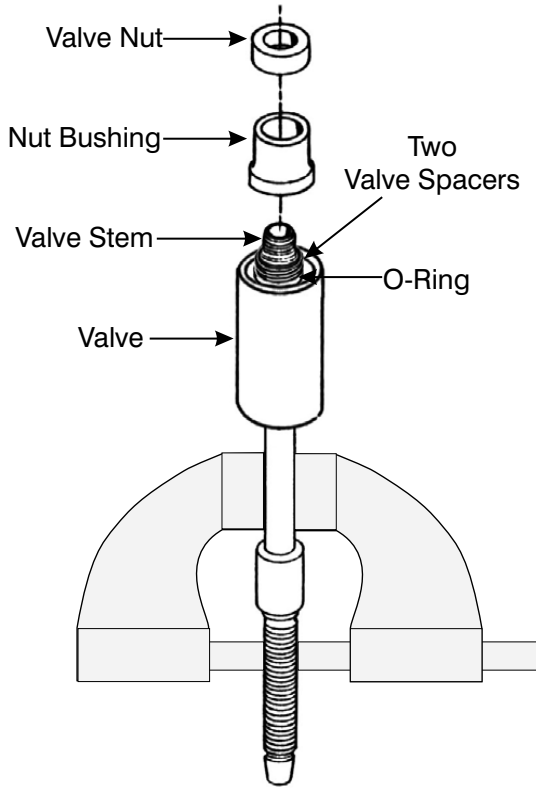
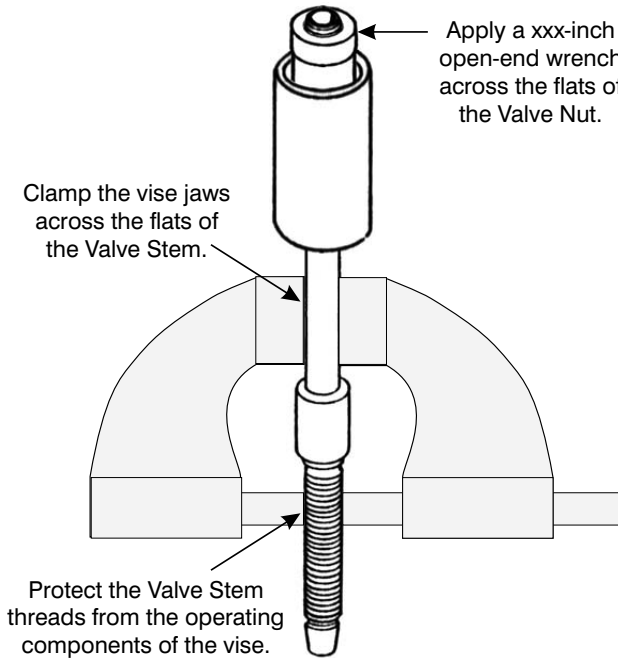

Figure 9-12. Install Valve Nut and Nut Bushing
Figure 9-13. Secure Valve to Valve Stem
18. Slide the Nut Bushing (4) over the threads of the Valve Stem and seat the bushing against the top Spacer (5). Refer to Figure 9-12.
19. Holding the Nut Bushing (4) in place, thread the Valve Nut (3) onto the Valve Stem. Tighten it hand tight.
20. Use a 2-3/4-inch open end wrench to tighten the Valve Nut (3) on the Valve Stem (8). Refer to Figure 9-13.